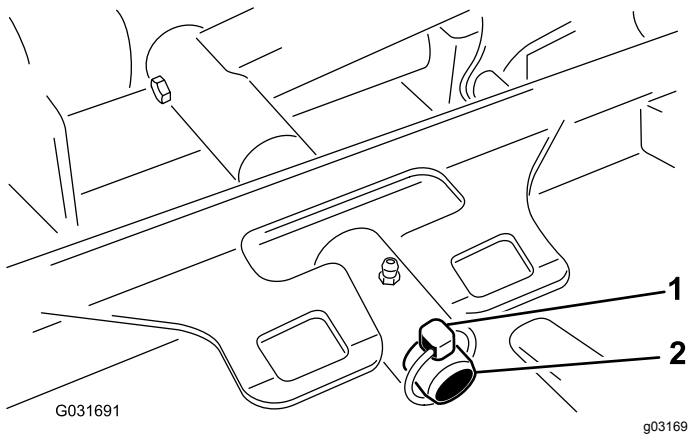

Figure 62
3. Remove the lynch pin securing the deck-carrier frame to the lift-arm pivot pin (Figure 62).
3. Slide the deck-carrier frame onto the lift-arm pivot pin and secure it with the lynch pin (Figure 62).